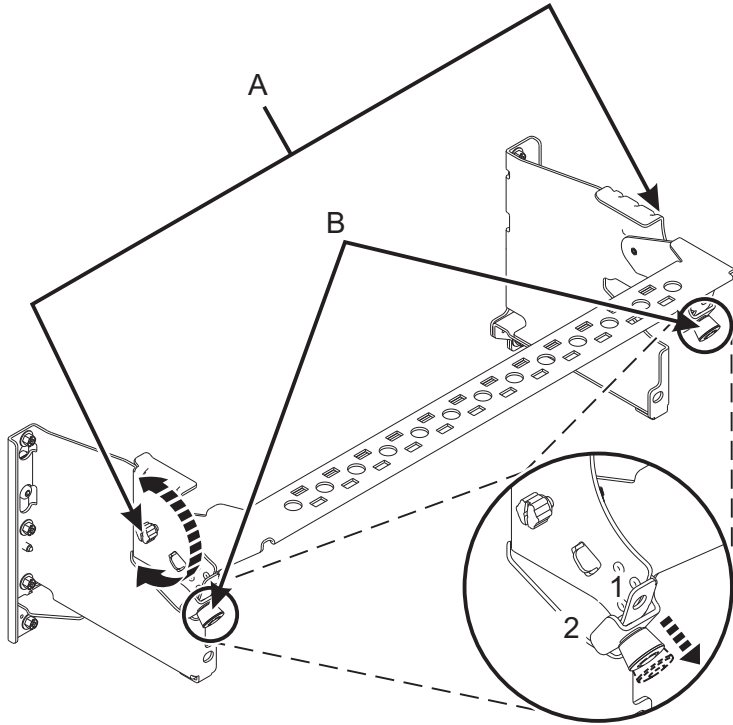

Figure 48. Placing the cable management bracket in the operating position
5. Put the cable management bracket in the operating position. See Figure 48 on page 46.